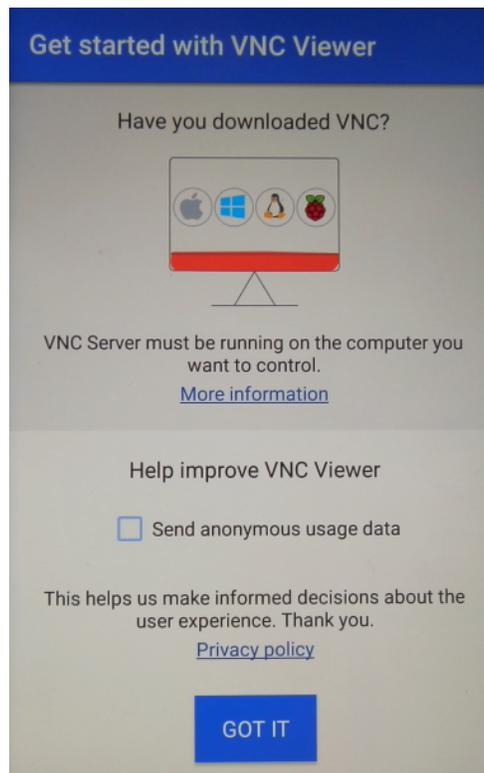

Figure 14: VNC Get Started Screen
1. Tap or click on the VNC application to execute it: The screen shown in Figure 14 appears.